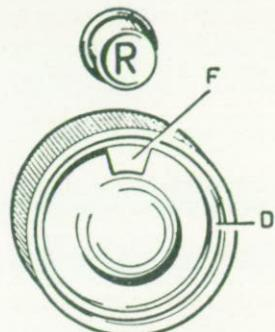

Fig. 17
- Turn button « D » (Fig. 17); the stitch length expressed in mm. is visible through small window « F ».
- Push button « R » completely (Fig. 17); the machine will sew in reverse with the stitch length regulated by button « D ».